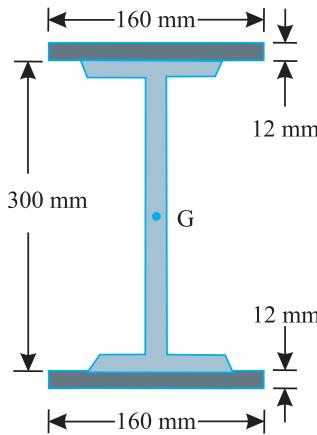

Fig. 7.20.
**Example 7.16.** A compound beam is made by welding two steel plates 160 mm × 12 mm one on each flange of an ISLB 300 section as shown in Fig 7.20.